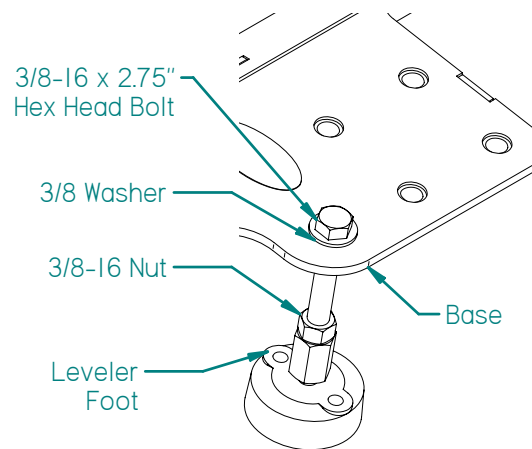

FIG. 3
8. Assemble the 3/8-16 x 2.75" Hex Head Bolt and 3/8 Washer into the base as shown in FIG. 3.
9. Assemble the 3/8-16 Nut and Leveler Foot as shown in FIG. 3. Fasten Leveler Foot until finger tight onto bottom of 3/8-16 x 2.75" Bolt.